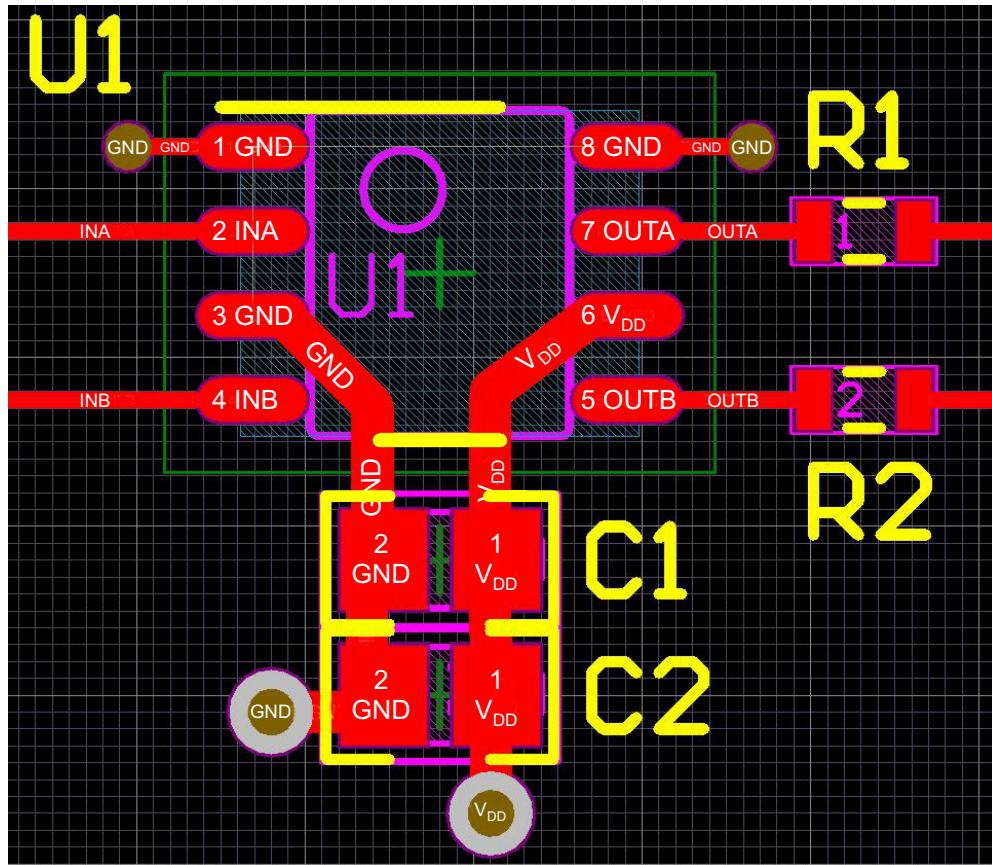

图 9-1. UCC27324-Q1 Layout Example
- Locate the V_{DD} bypass capacitors between V_{DD} and GND as close as possible to the driver with minimal trace length to improve the noise filtering. Place these capacitors as close to each other as is allowed, as shown by C1 and C2 in 图 9-1 which ensures minimal trace inductance and gives the effect of a *capacitor bank*. These capacitors support high peak current being drawn from V_{DD} during turn-on of the power MOSFET. The use of low inductance surface mount components is highly recommended.